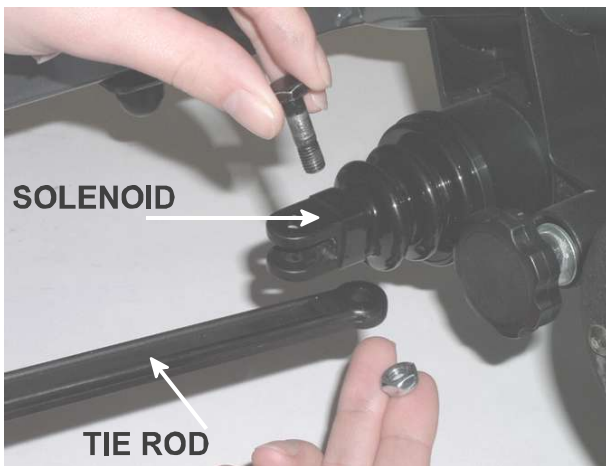

Figure 1
STEP 1: Remove the bolt securing the tie rod to the steering solenoid using 7/16" wrenches. (See Fig. 1)